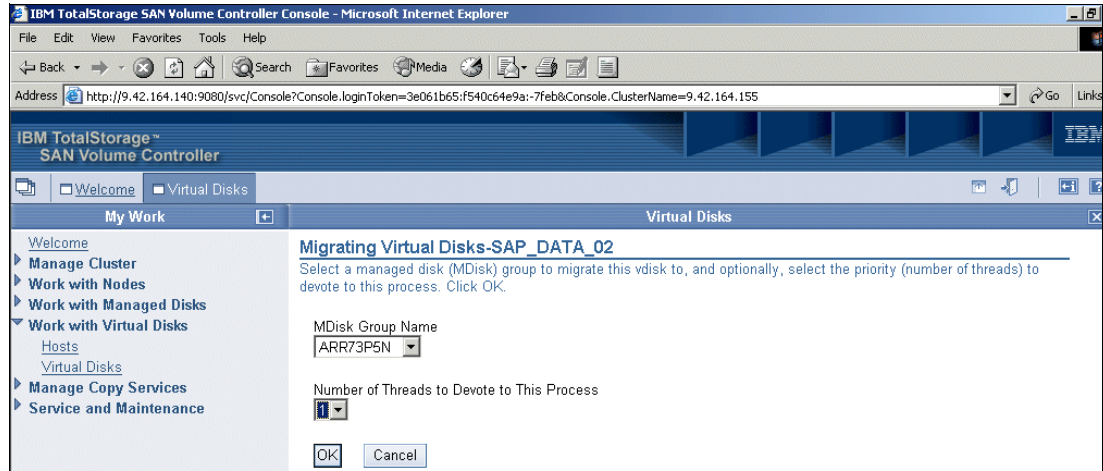

Figure 9-73 Migrating a vDisk
2. The Migrating Virtual Disks-*vDiskname* panel (where *vDiskname* is the vDisk you selected in the previous step) opens as shown in Figure 9-73. From the mDisk Group Name list, select the MDG to which you want to reassign the vDisk. Specify the number of threads to devote to this process (a value from 1 to 4).